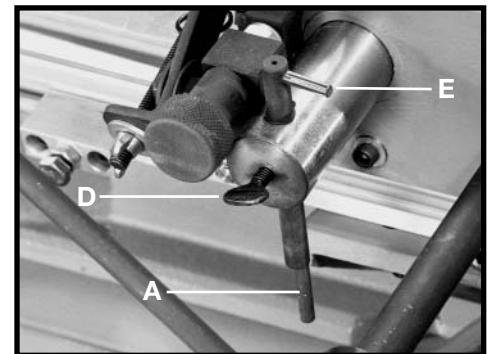

Fig. 78
The follower arm (A) Fig. 78 rides against either a turning or a template and controls the depth of the cutting tool.
1. To adjust the follower arm (A) up or down, loosen wing screw (D), move the arm up or down to the desired position, and tighten screw (D). The bottom portion of the follower arm (A) Fig. 78 is an eccentric and this portion of the arm should always ride against the turning or template.
3. After a turning has been completed using the duplicator, adjust the cutting tool slightly closer to the workpiece for one additional final cut by loosening wing screw (D) Fig. 78, and rotating lever (E) slightly clockwise.